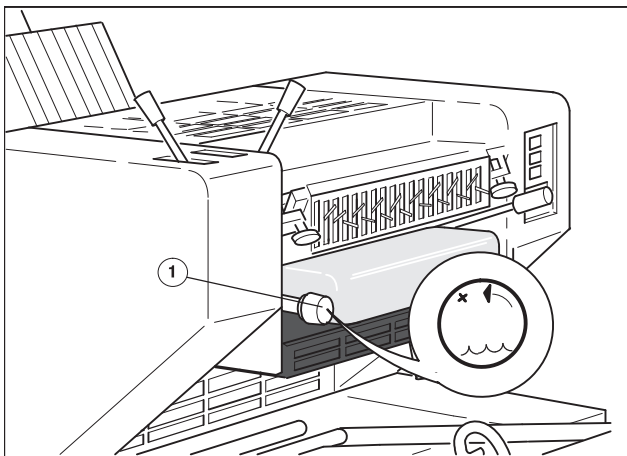

Fig. 11 Control knob for the dampening solution amount, PU 2
1. Press in the control knob (Fig. 11/1) and turn to "+", in order to reduce the squeeze between the metering roller and water pan roller; the dampening solution amount increases.